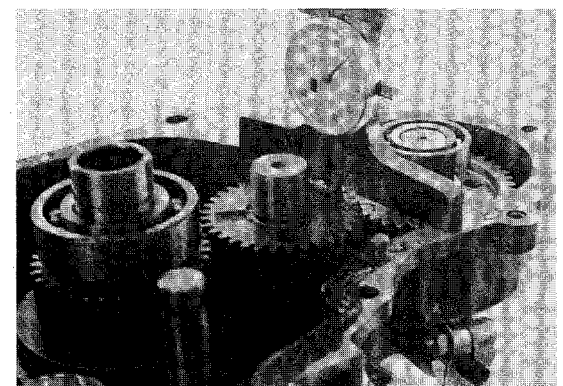

Figure 10-25
- Install "O" ring (23) in groove onto shifter shaft (22).
- Hold shifter arm lever (67) inside case, with cam side facing towards the case, and install shifter shaft (22).
- Install roll pin (66) through shifter arm lever (67) and shifter shaft (22) using a 5/32" punch.
- Install air breather (29).
- Install the main cluster in the housing. When installing, align the main cluster ball bearing (38) with the bearing bore in transmission housing and at the same time align the shift rod with its bore in the housing. Also seat the end of the shifter arm lever (67) into the socket of the shifter arm (70).
- Install the gear (62) on to the input shaft.
- Measure the distance from the gasket surface of the housing to the side of gear (62) (**Figure 10-25**). Use the chart to determine which thrust washer to use.